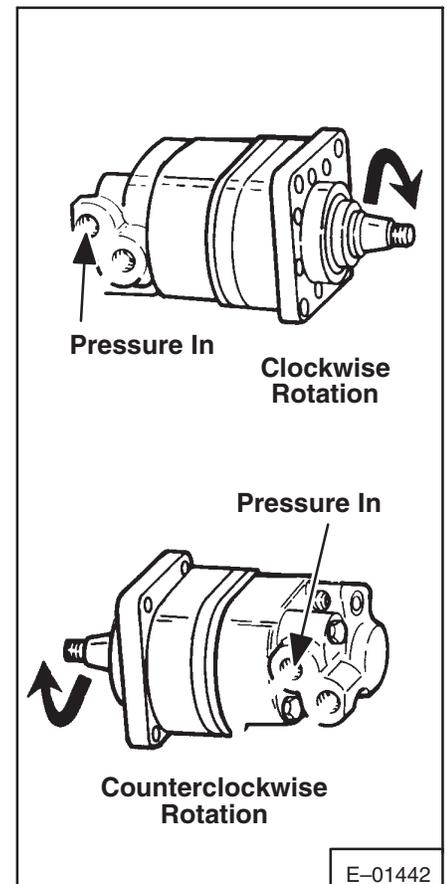

Fig. 3-71 Rotation Of The Motor
23. Align the valve on the valve drive so that any one of the side openings is in alignment with the mark you made on the outside of the geroler. Turn the valve clockwise 1/2 tooth to engage the drive. This will give the rotation shown when pressurized (Fig. 3-71).